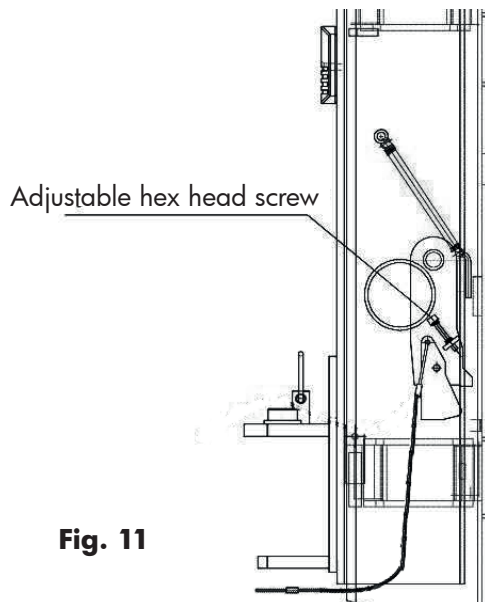

Fig. 11
2. Check if mechanical locks can be well engaged or released in the running process (**fig. 11**).